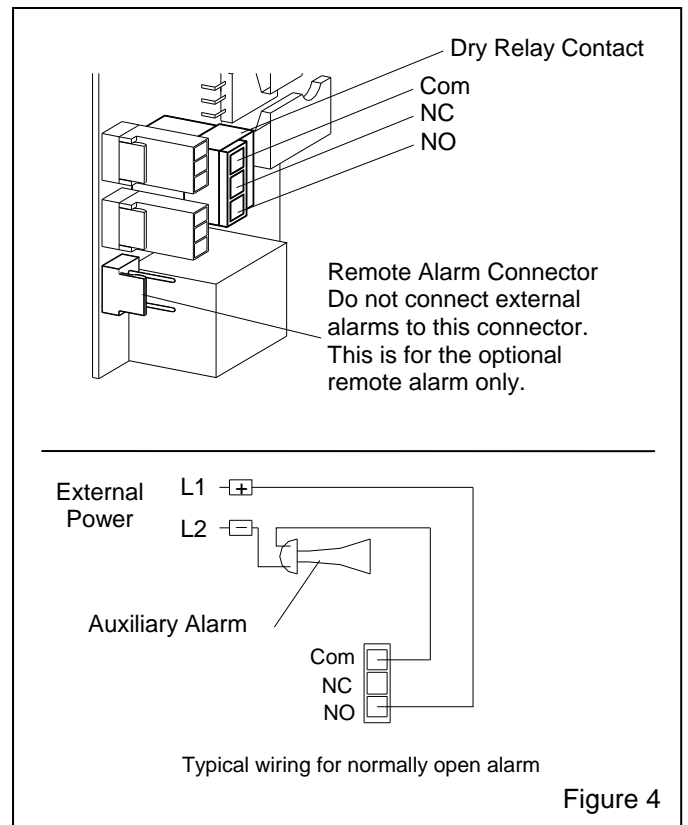

Figure 4
2.2.3 Connecting External Alarm and Shut-Down Device. Ref. Figure 4. Note: External alarms require an external power source. Do not confuse with the optional remote alarm that does not require external power.
2.2.3.1 A relay contact is mounted on the circuit board (Ref. Figure 4), for use with external alarms and shut-down devices. These contacts are rated at 5 amperes. Use the contacts to operate relays for external devices.